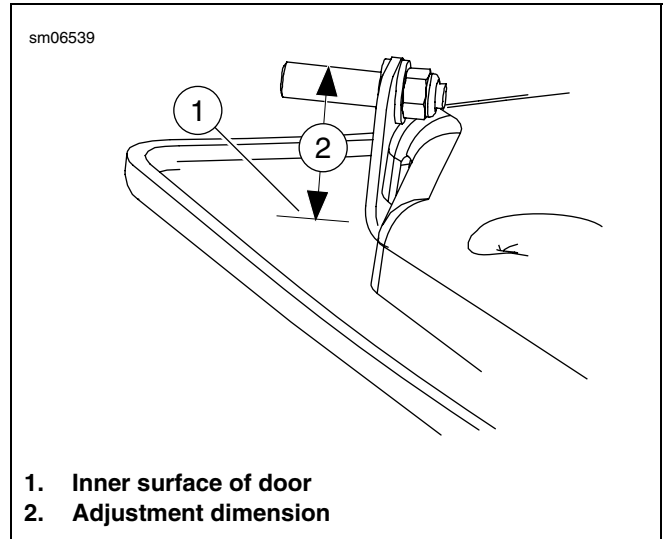

Figure 6. Adjust Latch Pins
- See Figure 6. Adjust the latch pins to 1.5 in. (38.1 mm) from upper edge of pin to the inner surface (1) of the door. Use a dial caliper to measure distance (2) near the end of the latch pin. Tighten nuts to 60-72 **in-lbs** (6.8-8.1 Nm).
- Slowly close the door until the latch pins contact the latches. Both latch pins should contact the latches at approximately the same time. If necessary, reduce dimension (2) of the pin that contacted first until both pins contact at the same time.